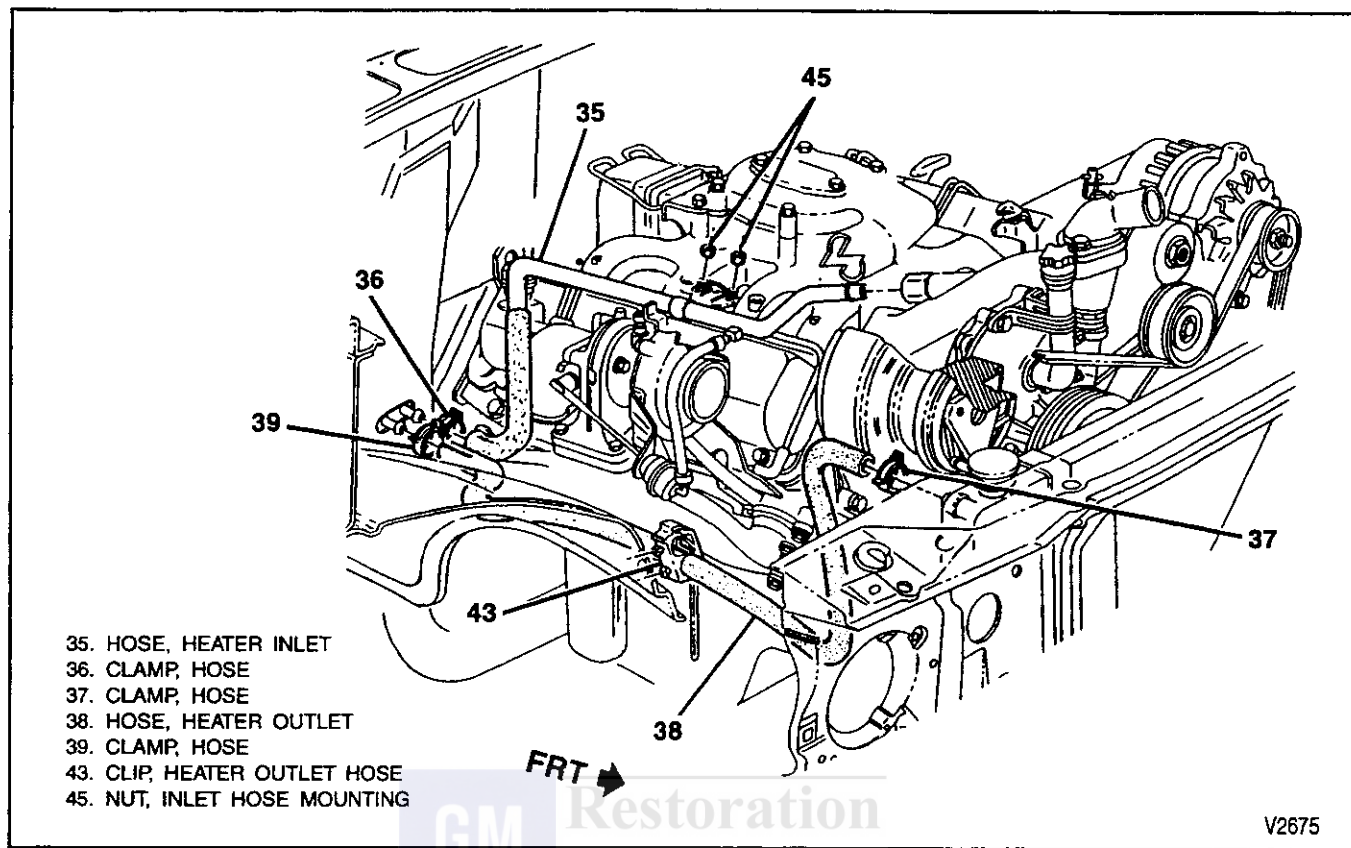

Figure 17—Heater Hose Routing (6.5L Diesel Engines)
4. Inlet hose mounting screw (42).
- Screw (42) to 1.4 N.m (12 lbs. in.).
**Remove or Disconnect (Figure 17)**
3. Inlet hose (35).
4. Outlet hose clip (43).
5. Outlet hose (38).
## Install or Connect (Figure 17)